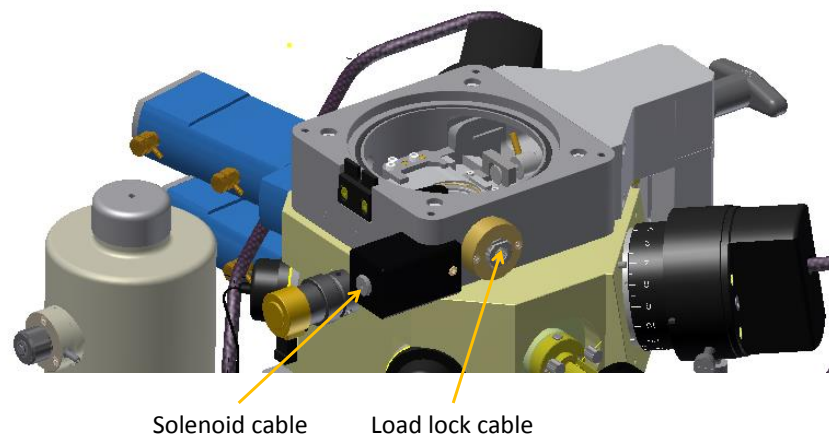

Figure 5-15. Load lock cable connections
2. **Unplug the 2 cables connected to the outside of the load lock chamber. See Figure 5-15.**
2. Unplug the 2 cables connected to the outside of the load lock chamber. See Figure 5-15.